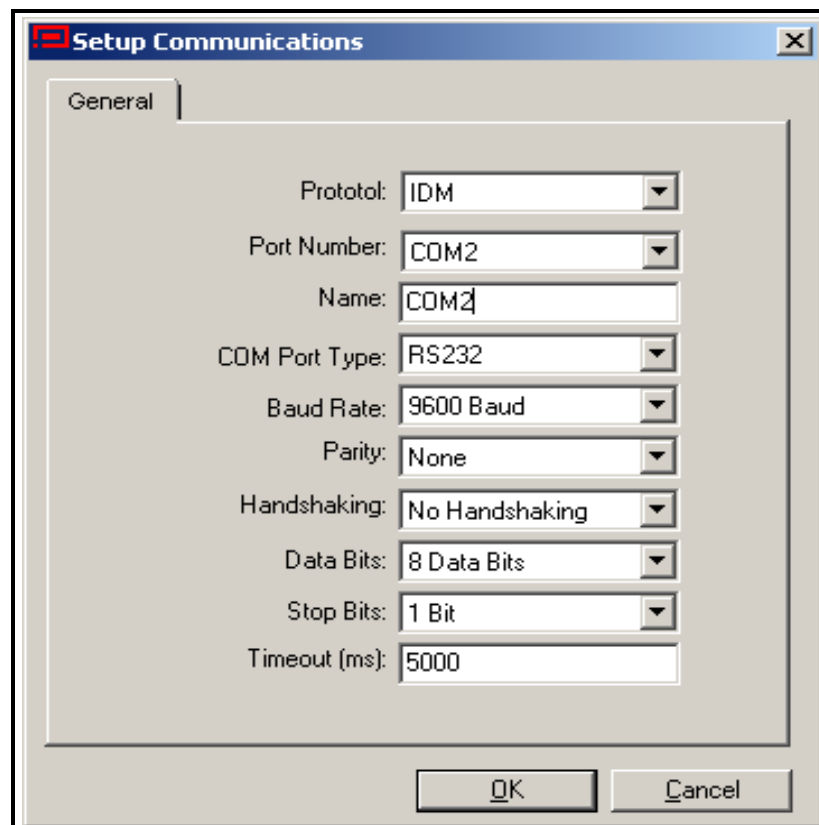

Figure F-3: *Setup Communications* Screen
- Click on the “*Communications Port*” option to select it. The *Setup Communications* screen appears similar to Figure F-3 below.